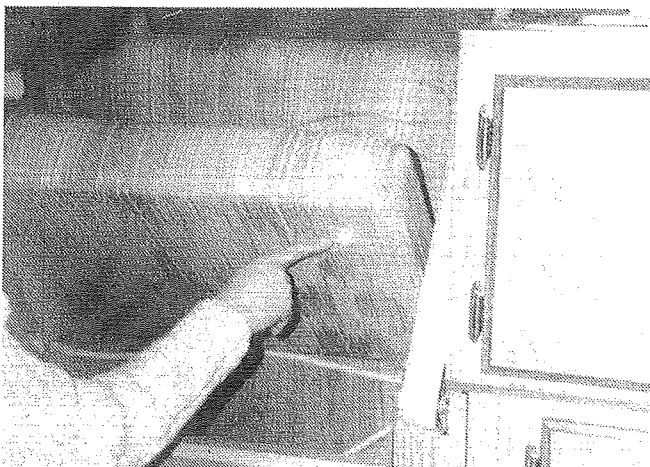

FIGURE 30
1. Lift the backrest off the dinette table and slide the seat cushion inboard. Set the backrest in place against the side wall. Slide the seat cushion in place, making sure that the plastic stops are wedged firmly against the interior of the metal seat frame. See Figure 30.